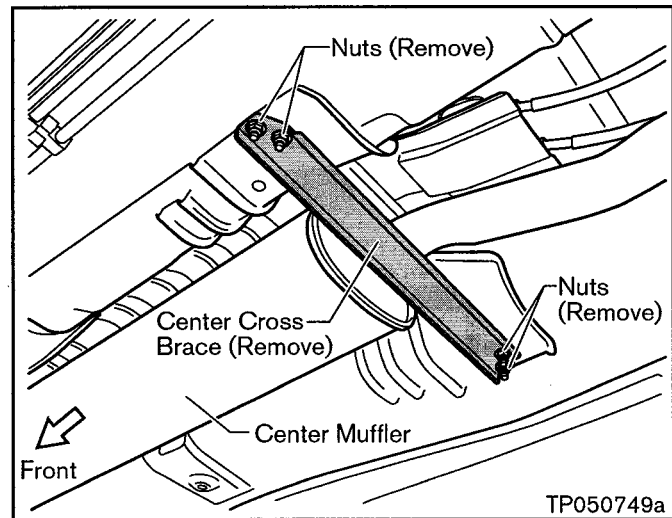

Figure A8
- e. Remove four nuts and take off the center cross brace (see Figure A8).